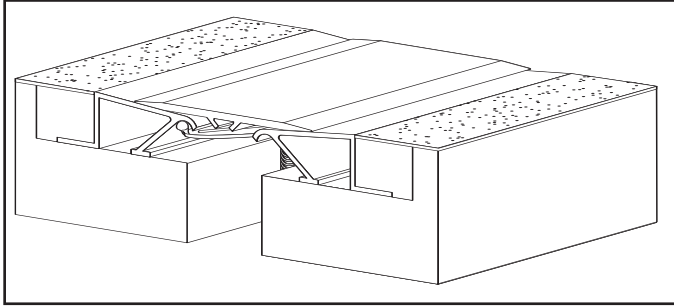

Fig. 4a (Reduced sightline option)
13. Backfill the blockout with high strength non-shrink epoxy grout (installer furnished). Install the floor finish level to the top of the frames. Optional: Carpet or sheet vinyl may be installed over the frame and under the center plate to reduce the sightline. (See Figure 4a). Lift up the edge of the plate to install either finish. Clean the exposed surfaces with a non-solvent cleaner, such as 409, as required.